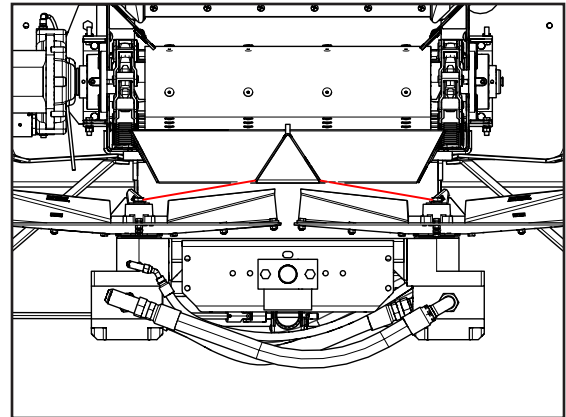

Figure 5
6. Figure 5 - Center Material Divider by measuring from the right hand inner drop-off point to the inner hex flat on the right hand Spinner Hub Bolt. Repeat measurement on opposite side. Measurements must be equal, or no greater than 1/8" off overall.